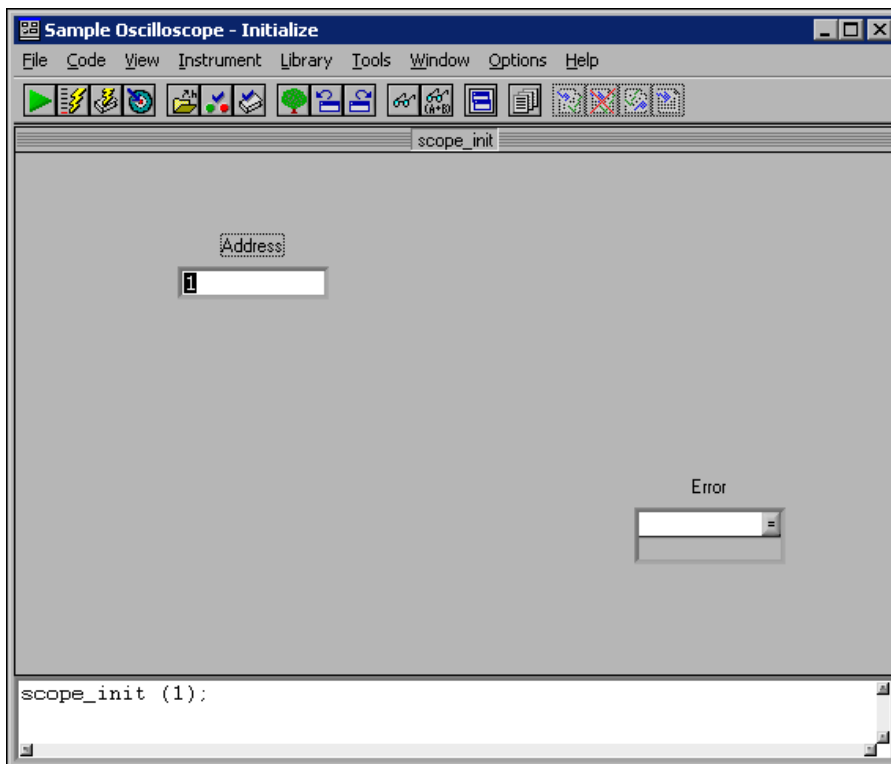

Figure 3-9. Scope Initialization Function Panel
2. Double-click **Initialize**. The scope initialization function panel appears, as shown in Figure 3-9.